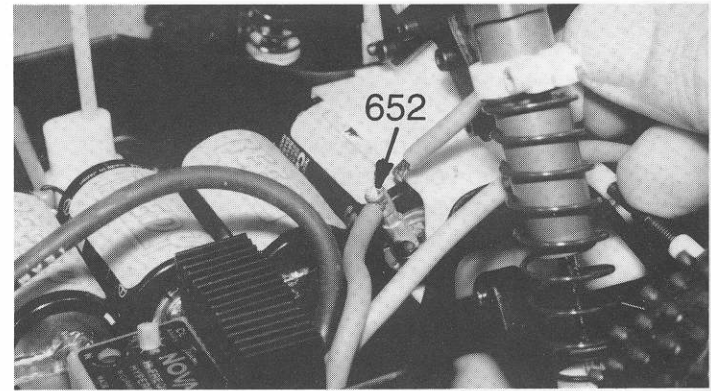

**Fig. 182**
□ **Fig. 182** Before we can install the battery pack into the car, we must notch the battery cup as shown in fig. 182 so that the battery connector pin socket will fit.